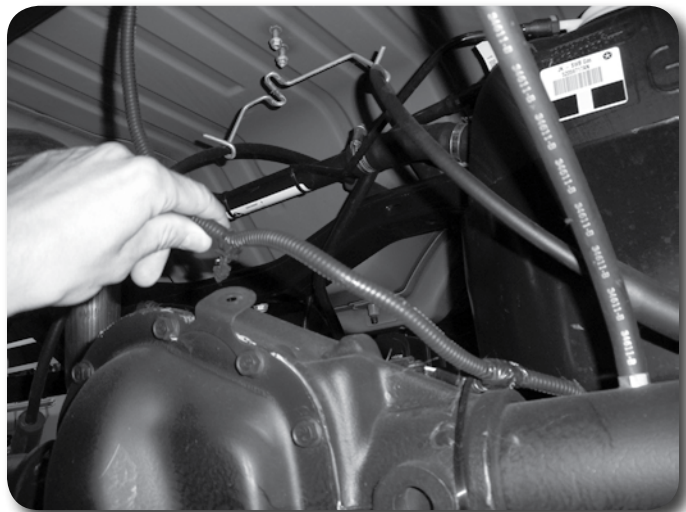

Figure 15
4. Rubicon models only: Disconnect the locker electrical wire from the top of the differential. Figure 15